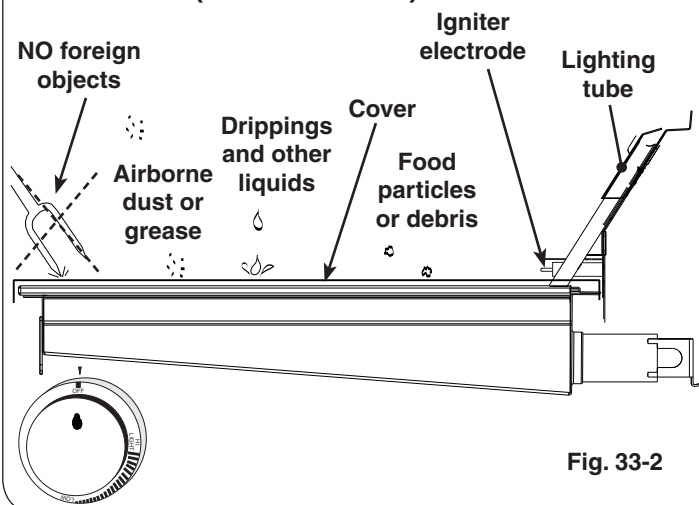

Fig. 33-2
- When not in use, **always** cover the infrared burner with the stainless-steel cover. This protects the burner from drippings (from other cooking), water, airborne particles, and foreign objects (Fig. 33-2).
- Do not strike or scrape the ceramic portion of the burner as it may chip, crack, or break (Fig. 33-2).